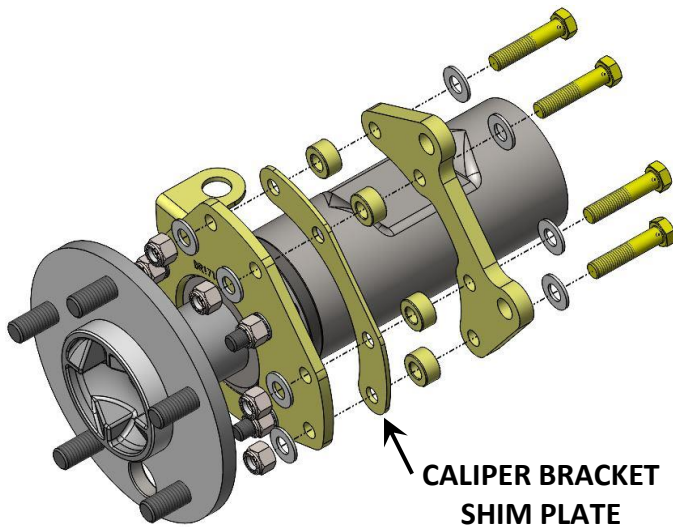
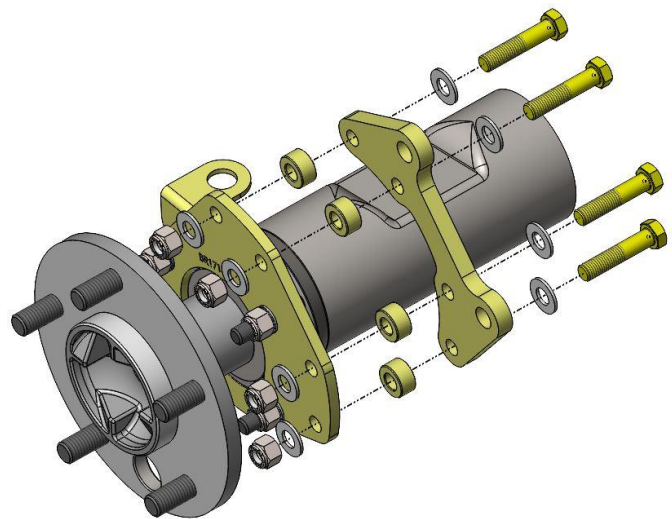

Figure 5a – Caliper Mounting Bracket Installation (2.810" Standoff)
Figure 5b – Caliper Mounting Bracket Installation (2.910" Standoff)
8. Install the Secondary Caliper Mounting Bracket at this time. If in step 7 you determined your standoff was 2.810", install the Caliper Bracket Shim Plate between the Primary Caliper Mounting Bracket and the spacer bushings as seen in Figure 5a below. If in step 7 you determined your standoff was 2.910", the Caliper Bracket Shim Plate is not required. Mount the Secondary Caliper bracket to the Primary Caliper Bracket with the spacer bushings only between them, as seen in Figure 5b below. Use the provided 3/8"-24 x 1.750" Grade 8 Hex Head Bolts, 3/8" SAE Flat Washers, 3/8"-24 Nyloc Nuts while installing the Secondary Caliper Mounting Bracket. Once in position, torque the 3/8" hardware to 40 lb/ft.